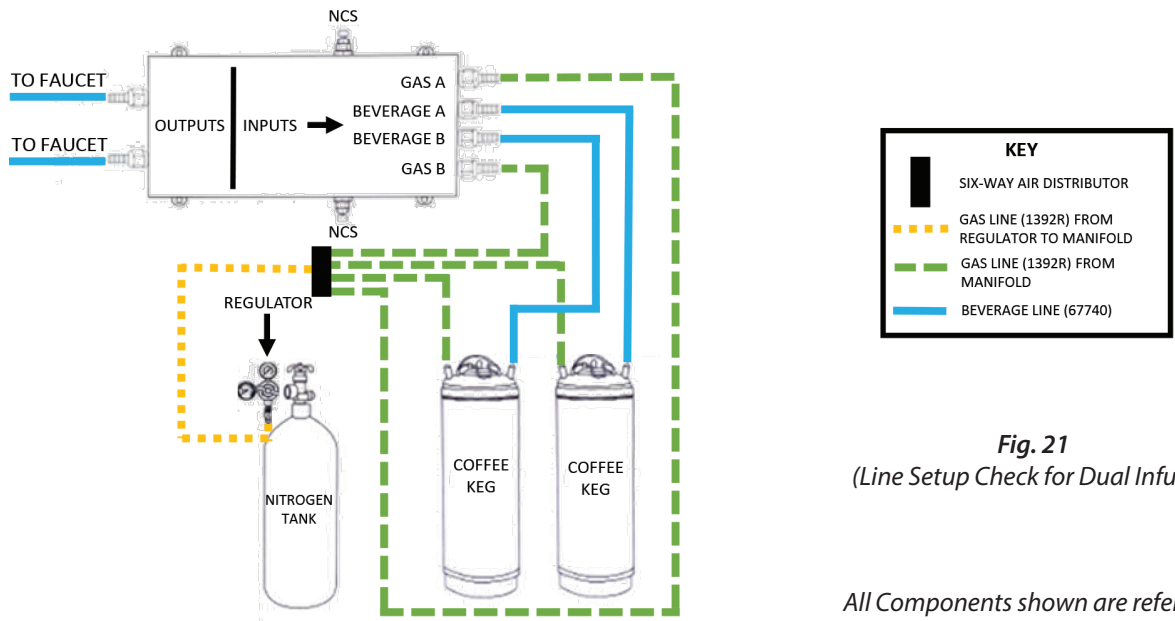

Fig. 21
5. Check the connections between the barbed tee fitting, air distributors, and regulator (**Fig. 21**).